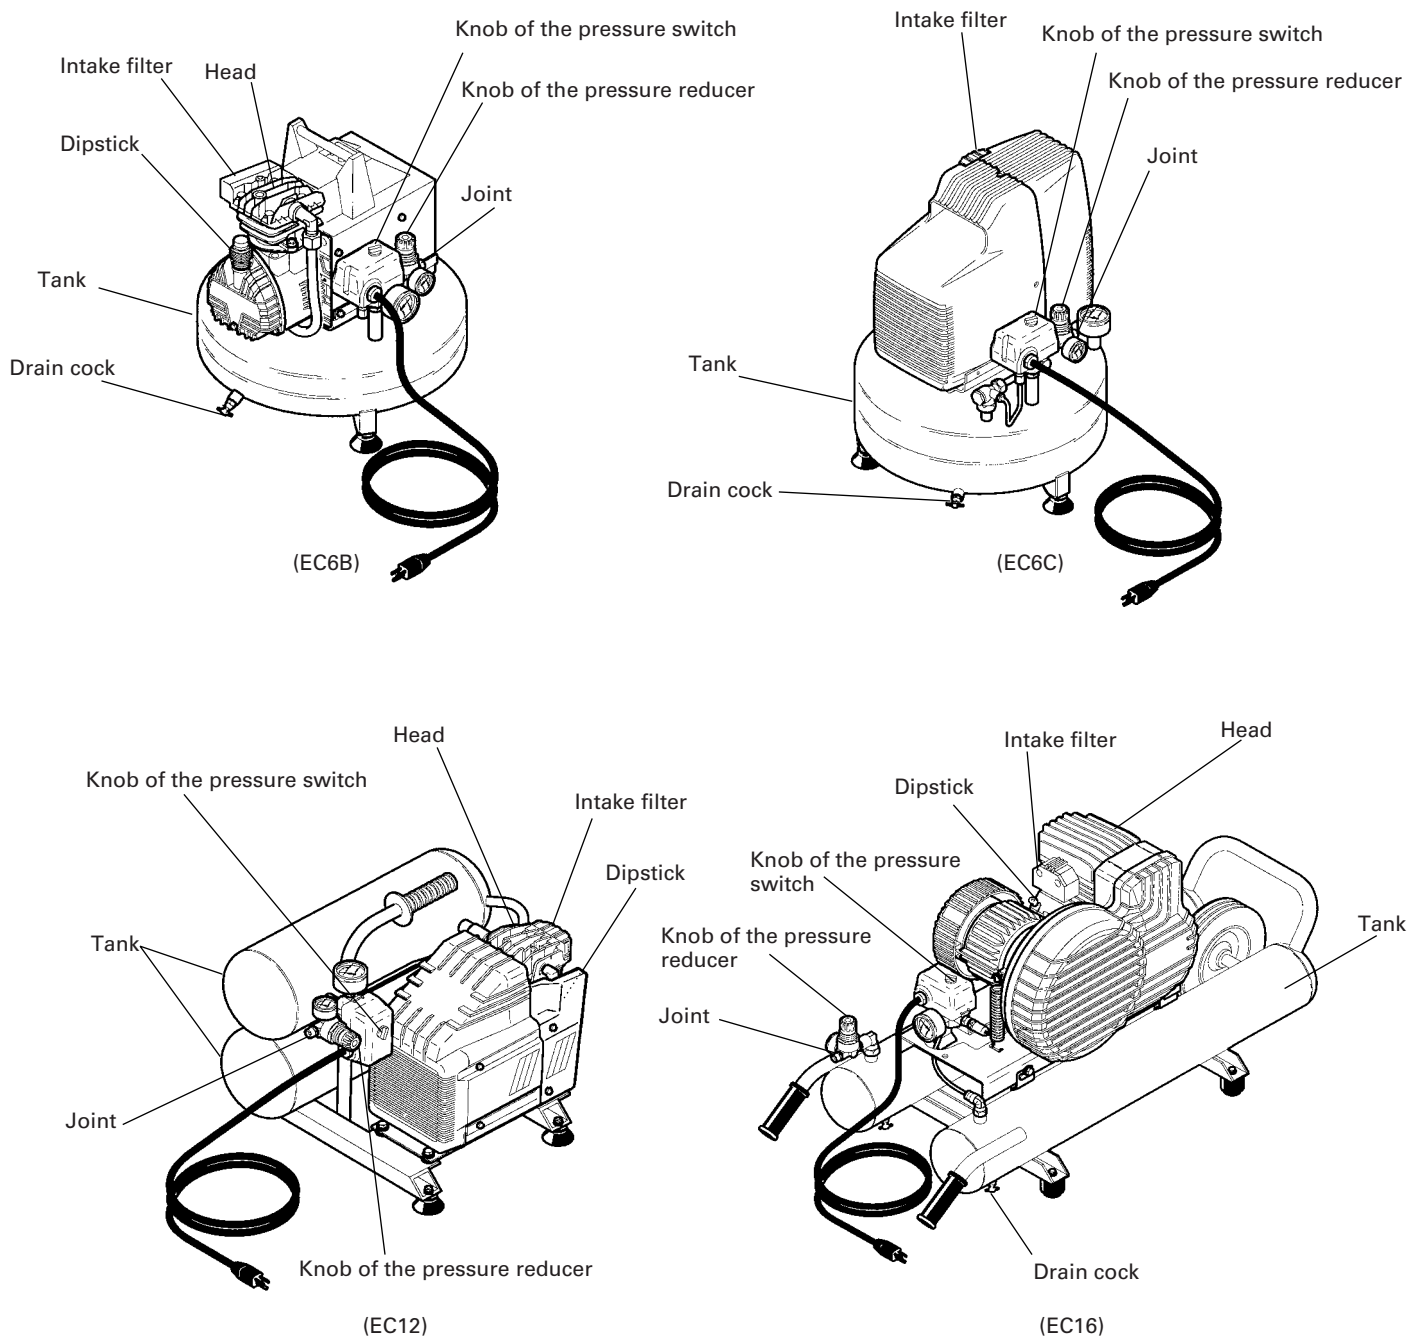
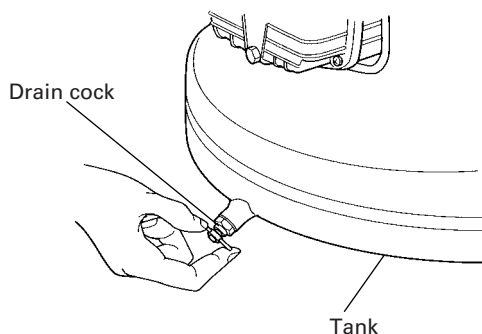
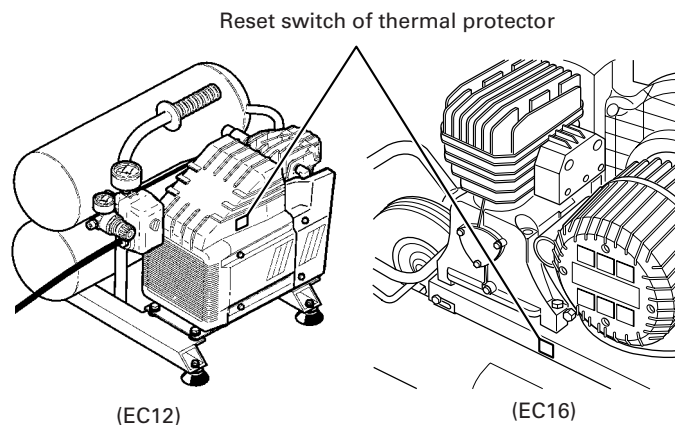
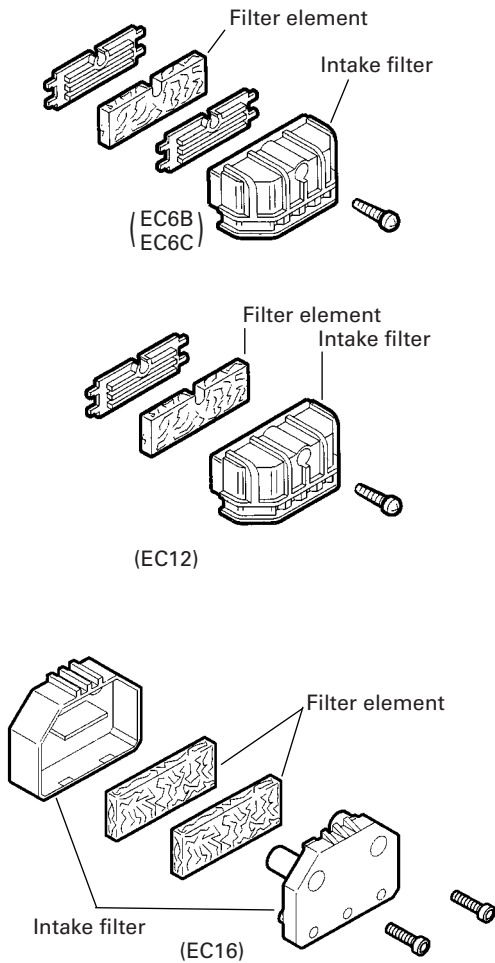

Fig. 1
Fig. 5
Fig. 6
Fig. 7
Screw in the air coupler to the joint (Refer to Fig. 1 and Fig. 4.). The screw size of the joint is 3/8". Use an air coupler which has the same screw size.
Insert the plug into the receptacle and start the compressor by turning the knob of the pressure switch, to "AUTO". (Refer to Fig. 1 and Fig. 4).
- (1) Turn the knob of the pressure switch to "OFF". (Fig. 1)
- (2) Unplug the plug from power source.
- (3) Open the drain cock located at the lower part of the tank (Fig. 5).
This item is not necessary if your compressor is not equipped with the thermal protector reset switch shown in Fig. 6.
- (1) Turn the pressure switch knob to the OFF position (Fig. 1) and disconnect the plug from the receptacle.
- (2) If the extension cord does not conform to the specifications given on page 6, replace with an extension cord such as that shown on page 6. If the capacity of the power supply is insufficient, increase the power supply capacity to remove the cause of a flow of excessive current (over-current).
- (3) Wait approximately 5 minutes, then press the reset switch of the thermal protector (Fig. 6).
- (4) Start up. If the motor still stops during operation, please contact the service center.
Remove the intake filter (Refer to Fig. 1.) every 50 hours or once a week and clean the inside of the intake filter and the filter element with compressed air. (Fig. 7)
Drain tank daily or after 4 hours of use. Open drain fitting and tilt compressor to empty accumulated water. (Fig. 5).